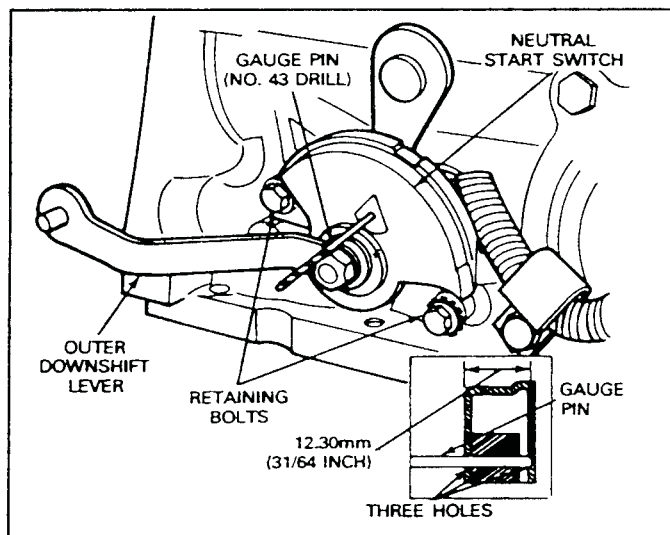

FIG. 8 Neutral Start Switch—C6
2. With the automatic transmission linkage properly adjusted, loosen the two switch attaching bolts (Fig. 8).
3. Place the transmission selector lever in neutral. Rotate the switch and insert the gauge pin (No. 43 drill shank end) into the gauge pin holes of the switch. The gauge pin has to be inserted a full 12.303mm (31/64 inch) into the three holes of the switch (Fig. 8).
- 3. Remove the two neutral start switch retaining bolts (Fig. 8).
- 2. With the transmission manual lever in neutral, check the location of the switch with the gauge pin. Install gauge pin (No. 43 drill) into the three gauge pin holes (Fig. 8).